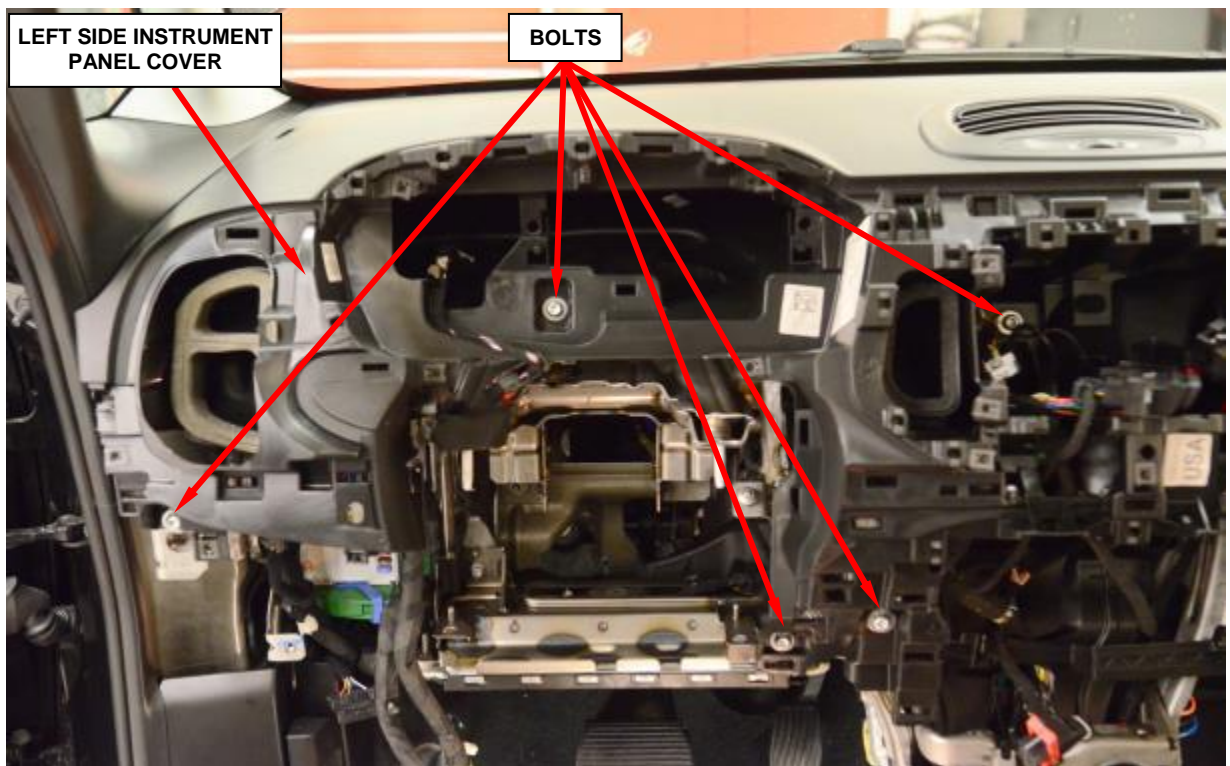

Figure 23 – Left Side Instrument Panel Cover
- 27. Remove and save the five bolts from the left side of the instrument panel cover (Figure 23).